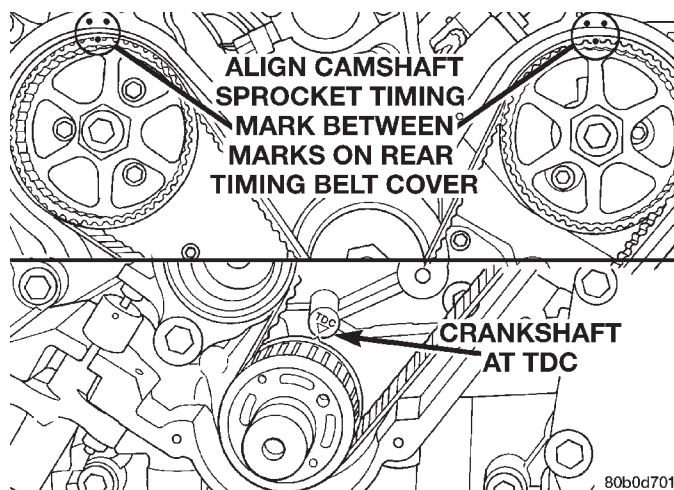

Fig. 51 Camshaft Sprocket Timing Marks
(5) Install camshaft sprockets onto the camshafts. Install **NEW** sprocket attaching bolts into place. The 255 mm (10 in.) bolt is to be installed in the left camshaft and the 213 mm (8 3/8 in.) bolt is to be installed into the right camshaft. **Do not tighten the bolts.** Camshaft sprocket mark should be positioned between the marks on the cover (Fig. 51) at both sprocket.